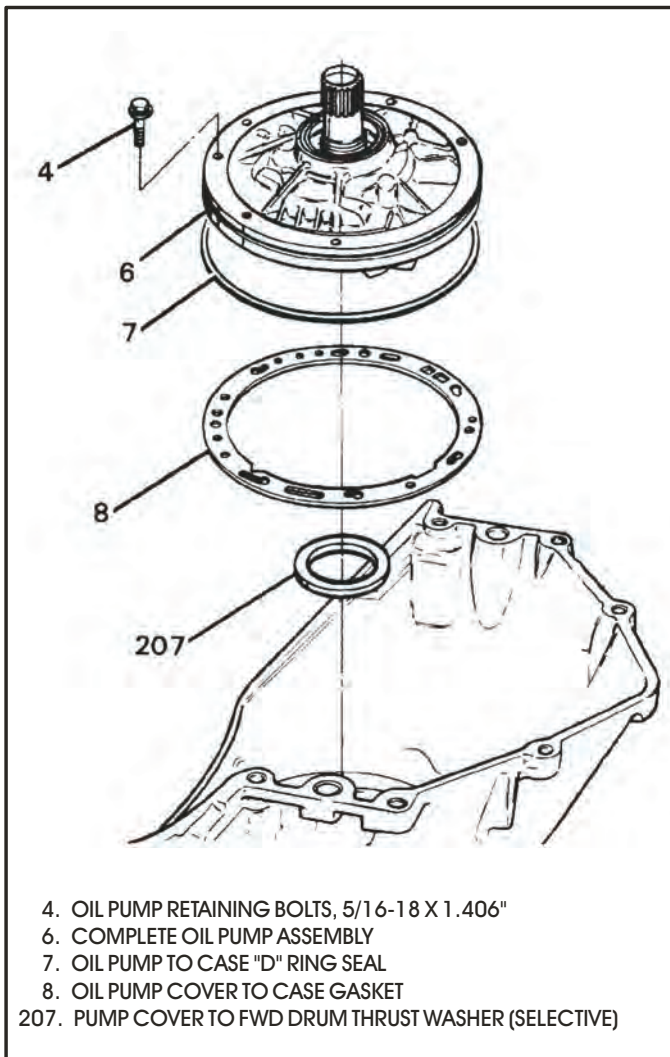

Figure 45
- 39. Rotate the transmission so that the oil pump is facing up, as shown in Figure 45.
- 40. Remove the oil pump retaining bolts as shown in Figure 45.
42. Remove the oil pump assembly from the case as shown in Figure 45.
43. Remove and discard the oil pump cover to case gasket, as shown in Figure 45.
44. Remove and discard the oil pump to case "D" ring seal (See Figure 45).
45. Remove the oil pump to forward drum thrust washer which is selective (See Figure 45).